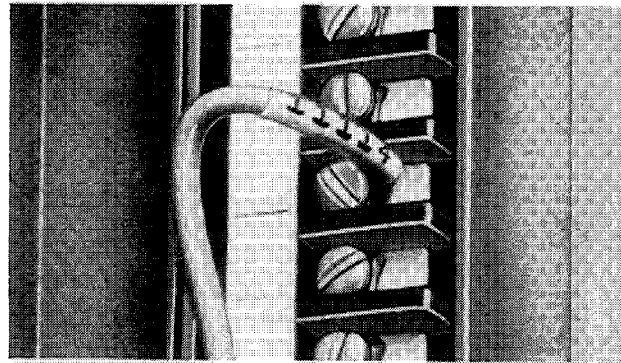

Figure 3.33 – Completed Terminal Wiring
- **Step No. 10** — Bend the end of the wire inward and slip it beneath the pressure plate of the terminal. Tighten the terminal screw securely. The wiring of this terminal is now complete. (Refer to Figure 3.33.)